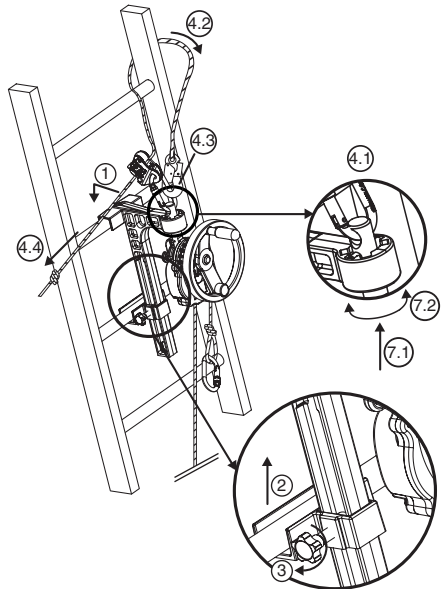

Fig. 6
6.3.2. derope™ UP B descender (Fig.6)
1. Place the large locking bracket on the ladder bar in the position chosen to carry out the rescue operation above the person to be evacuated (Fig.6, 1).
2. Push up the locking slide at the ladder bar immediately below the bar receiving the large bracket (Fig.6, 2).
3. Tighten the locking pin securing the slide using the clamping knob located on the side of the bracket (Fig.6, 3).
- Secure the connector of the adjustment device LCM 05 in the hole at the top of the fastening pin (Fig.6, 4.1).
- Run the belay lanyard around the ladder bar located above the bracket, going around one of the ladder uprights (Fig.6, 4.2).
- Connect the belay lanyard connector in the connector of the adjustment device LCM 05 (Fig.6, 4.3).
- Tension the belay lanyard by pulling on the free strand (Fig.6, 4.4).
7. Align the derope™ descender as may be required, modifying the position of the fastening pin in the indexing device (Fig.6, 7.1 – 7.2).